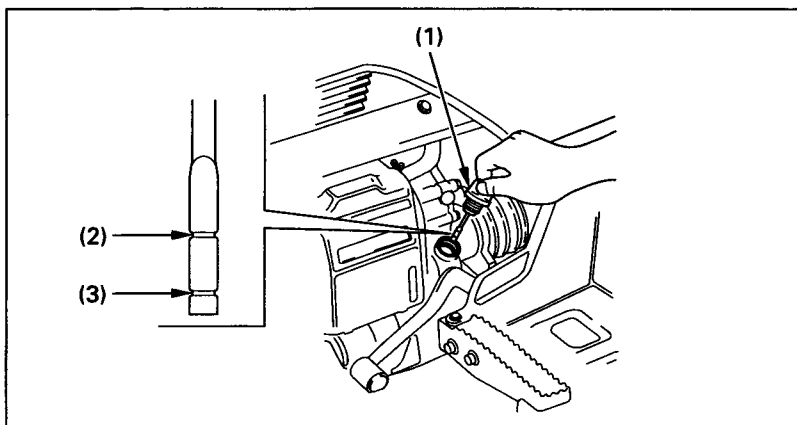

Fig. 4-10 (1) Oil filler cap/dipstick
4. After a few minutes, remove the oil filler cap/dipstick (1) (Fig. 4-10) from the right crankcase cover and wipe it clean.
5. Insert the dipstick without screwing it in, then remove the dipstick and check the oil level. The oil level should be between the upper level mark (2) and the lower level mark (3) on the dipstick.
1. With the FOURTRAX on level ground, remove the oil filler cap/dipstick from the rear crankcase cover (Fig. 4-10).